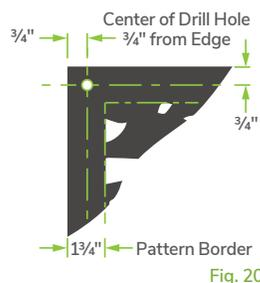

Fig. 20
- Position center of drill holes $\frac{3}{4}$ " from panel edges (Fig. 20).